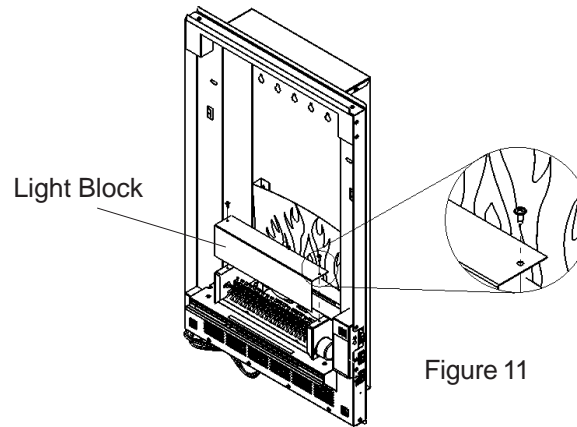

Figure 11
4. Remove the two screws securing the light block as shown in Figure 11, then remove the light block.